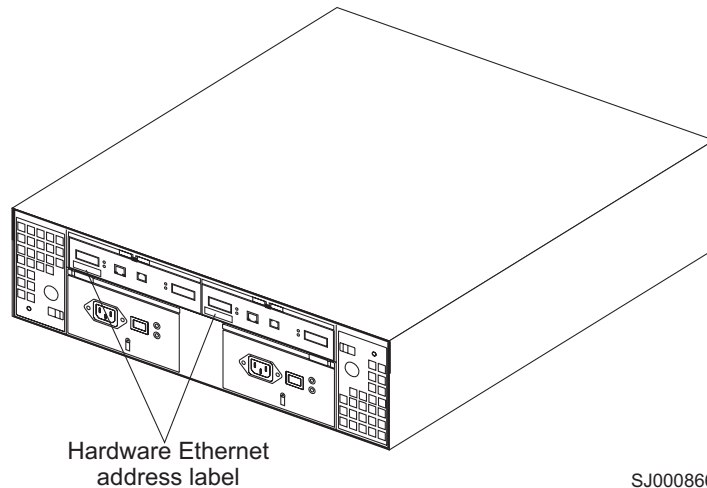

Figure 12. Locating the Ethernet MAC address (machine types 3542 [FAST200], 1724 [DS4100], and 1722 [DS4300])
1. Locate the Ethernet MAC address at the back of the unit, under the controller fibre channel host ports, as shown in Figure 12 on page 61. The number will be in the form xx.xx.xx.xx.xx.xx (for example, 00.a0.b8.20.00.d8).